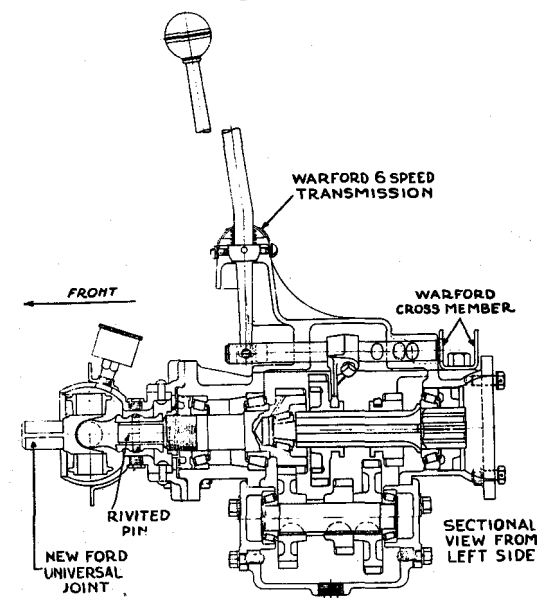

Fig. 7
7. Obtain a NEW Genuine Ford Universal joint (Ford Part No. 2571) from stock and attach it to the square shaft on the front end of the Warford Transmission—See Fig. 7—pinning securely in place using pin furnished with Warford transmission. Then replace the pin hole plugs and pack universal joint with grease.